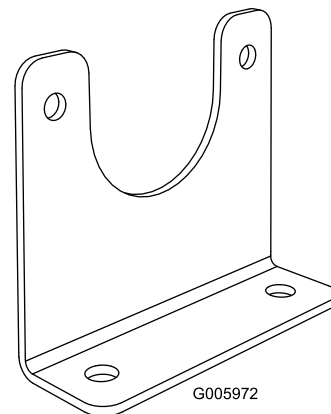

Figure 33
1. Locate the tail light bracket shown in Figure 33 in loose parts. This will be the only tail light bracket used for this kit.